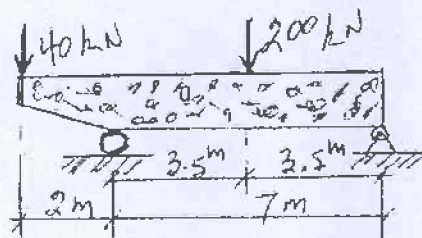

FIGURE B1
- B1. The overhanging reinforced concrete Beam in Figure B1 is loaded with the live load shown. Determine the dimensions of a rectangular cross-section and steel requirements for moment and shear. Account for the self-weight of the beam. Use $f'_c = 35$ MPa and $f_y = 400$ MPa.